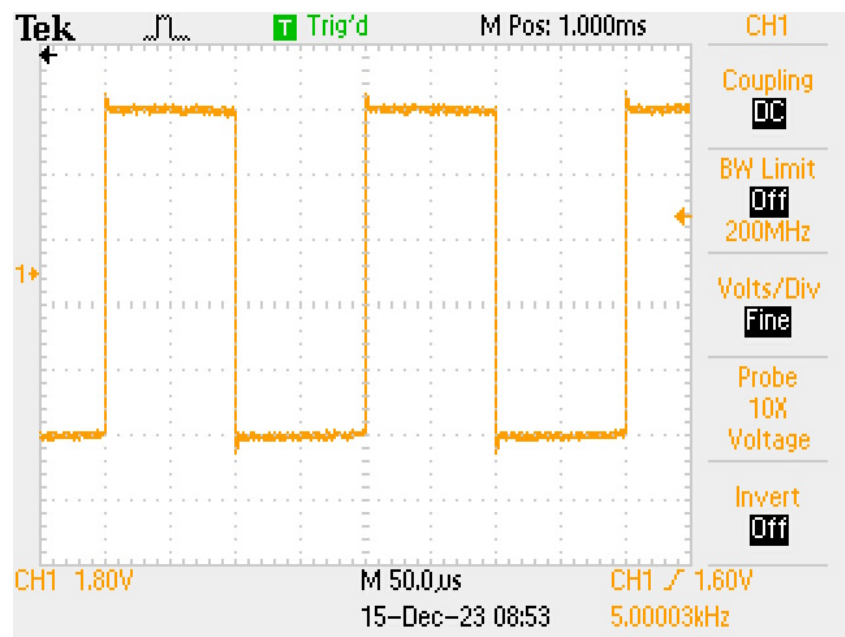

Figure 2.12: Rise Time Set-up Waveform
1. Increase the square-wave test signal frequency until the tilt is mostly gone, see Fig 2.12.
2. Use the **Fine** Volts/Div to adjust the signal to have exactly 5 major divisions peak to peak, see Fig 2.12.